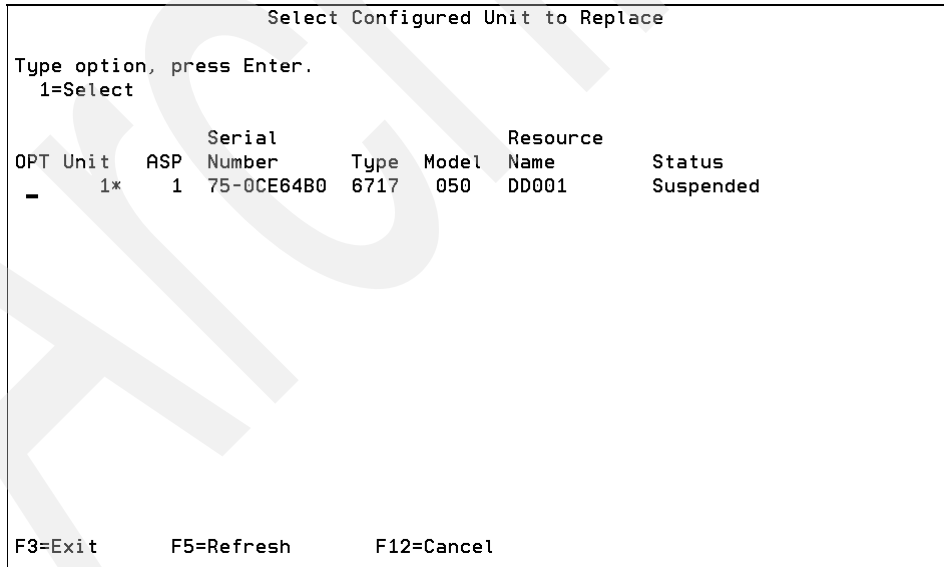

Figure 3-39 The Select Configured Unit to Replace screen
- e. Enter 1 next to the suspended Unit 1 disk unit at the screen shown in Figure 3-39.